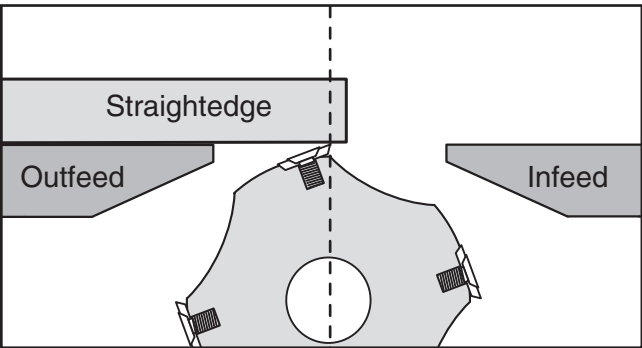

Figure 44. Outfeed table even with cutter at top dead center.
- 4. Place a straightedge across the outfeed table and just over the cutter positioned at top dead center (the straightedge should not extend over the infeed table during this procedure; see **Figure 44**).
When correctly set, the cutter will barely touch the straightedge, as shown in **Figure 44**.
8A. (Standard Procedure) Use the outfeed table handwheel to set the outfeed table height so that the cutting insert at top dead center barely touches the straightedge, as illustrated in **Figure 44**.